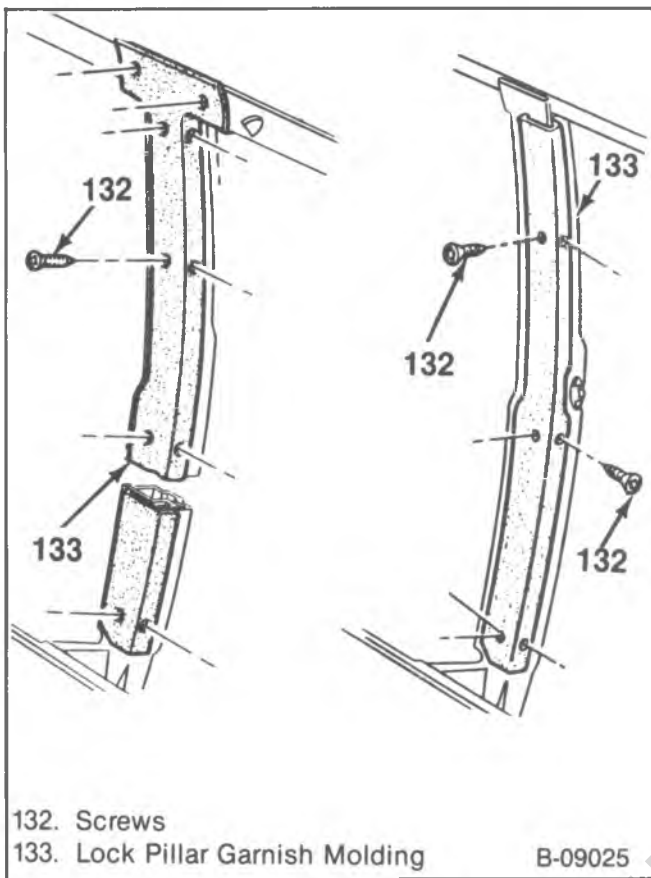

Figure 43—Lock Pillar Garnish Molding
1. Lock pillar garnish molding screws and the lock pillar garnish molding (figure 43).
14. Lock pillar garnish molding and screws (figure 43).